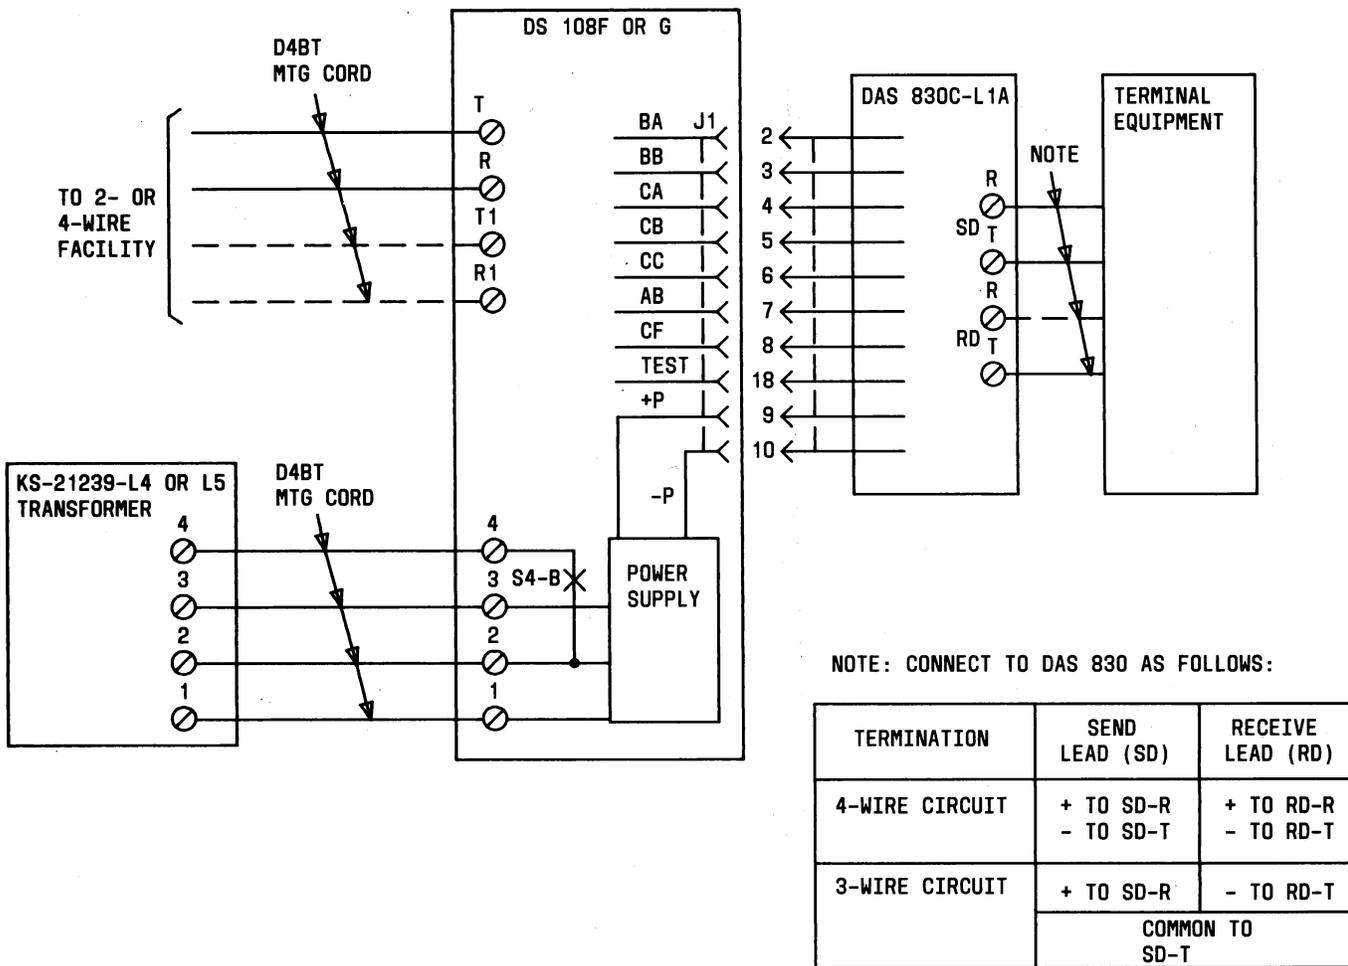

Fig. 19—DS 108F or G With DAS 830C-L1A Connection Diagram
- Fig. 19—DS 108F or G With DAS 830C-L1A Connection Diagram